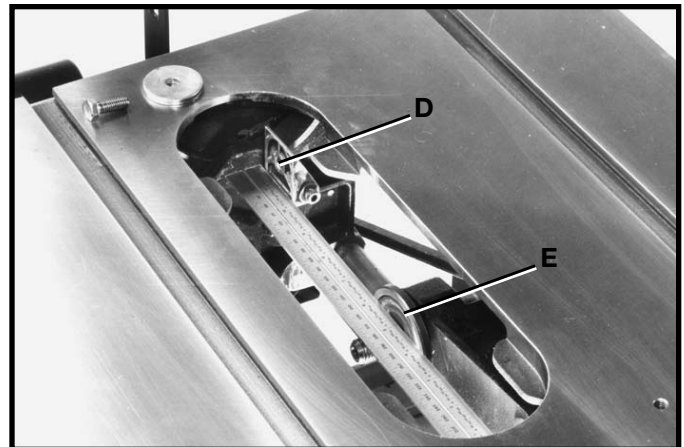

Fig. 30
4. Use a straight edge to check to see if the top and bottom of the inside splitter bracket (D) Fig. 30 is aligned with the inner arbor flange (E).